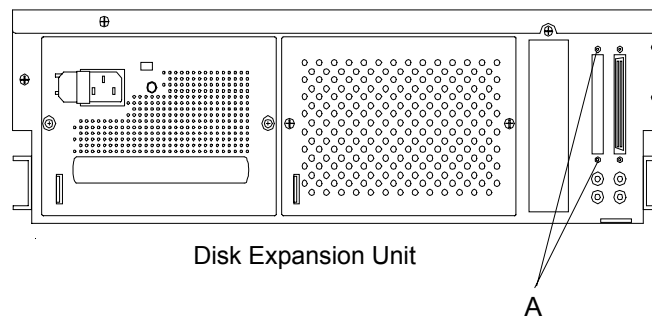

Figure 4-76. Removing the SCSI Blank Panel
- 13.** Remove the two screws securing the blank plate covering the optional SCSI connector cutout on the rear panel of the DEU (see Figure 4-76, A). Remove the blank cover.